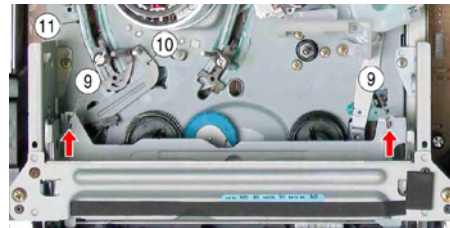

Fig. 4
- Slide 2 levers ⑨ (Fig. 4) and cassette compartment to inside.